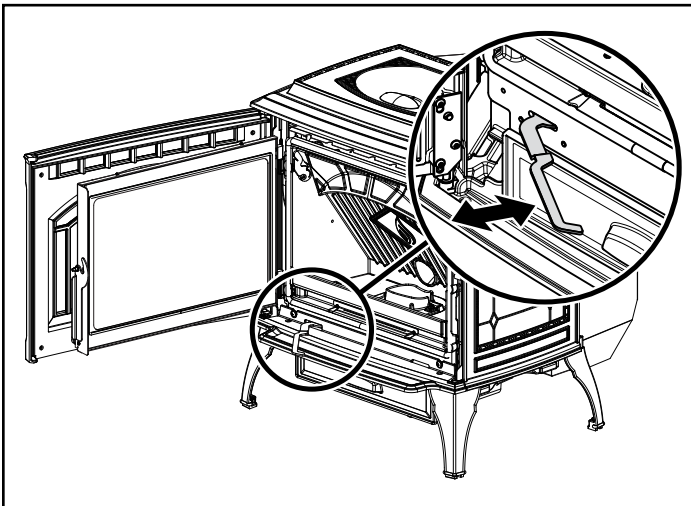

Figure 17.1
- c. Pull fire pot floor cleaning lever two times until the ash falls into the ash pan below (**Figure 17.1**).